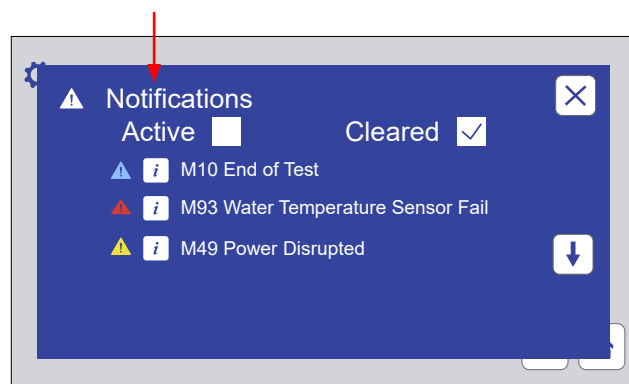

Figure 8.5b: The Notifications Display lists notification information.
- The type, information icon, identification code (ex. M104), and name are displayed for each notification (Figure 8.5b).